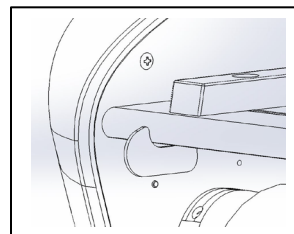

Figure 5
- E. **FEED TABLE LATCHES:** (figure 5) Used to unlock and lock the FEED TABLE.
- F. **FEED TABLE GUIDE:** (figure 5) Aligns items as they are being fed into the laminator. Especially helpful on longer items to reduce skew. The guide can be moved by loosening the knob and sliding the guide